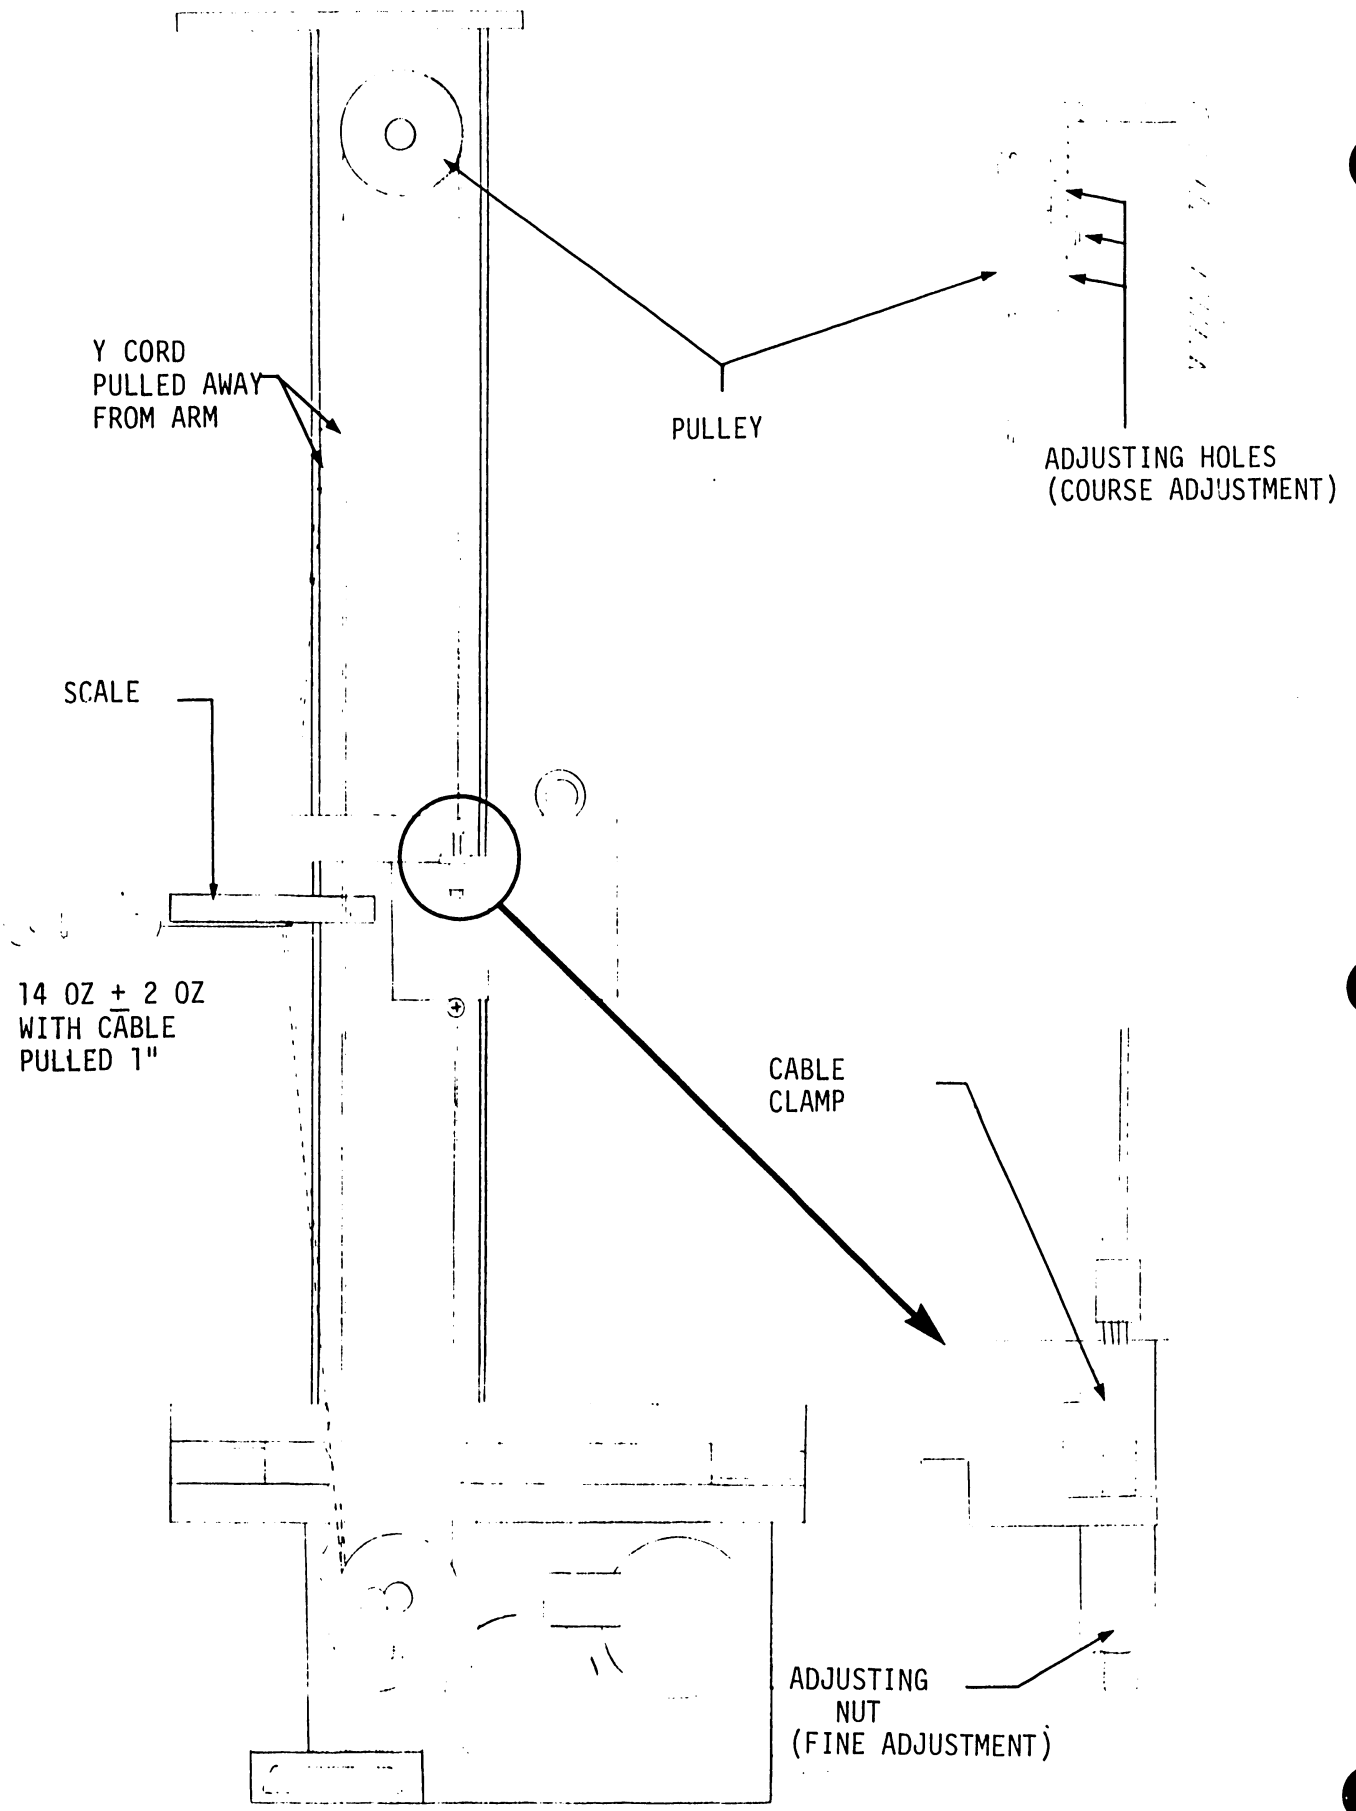

FIGURE 15
- 1) With the carrier assembly in the center of the Y arm, using a spring scale, pull the cable away from the arm. When the cable is pulled a distance of 1" (2.54) there should be a reading of 14 oz \pm 2 oz (See Figure 15).